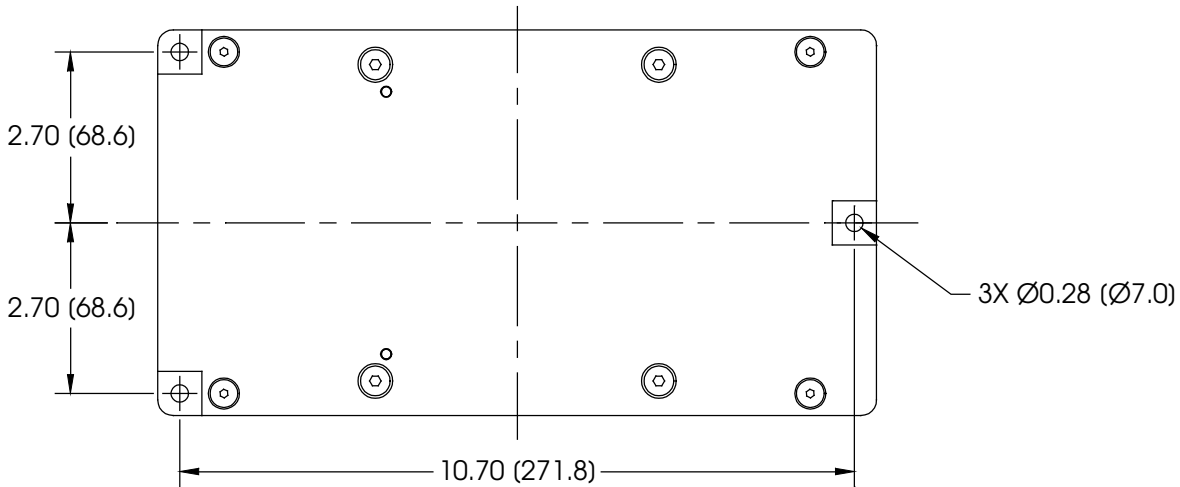

Figure 3. AFD1000-3 Table Top Mounting Plate
The AFD1000-3 is designed for mounting on a stationary fixture. It has (3) three $\text{\O}0.28''$ ($\text{\O}7.0$ mm) mounting holes spaced as shown in Figure 3. The AFD1000-3 Table Top Mounting Bracket should not be modified without first consulting PushCorp, Inc.